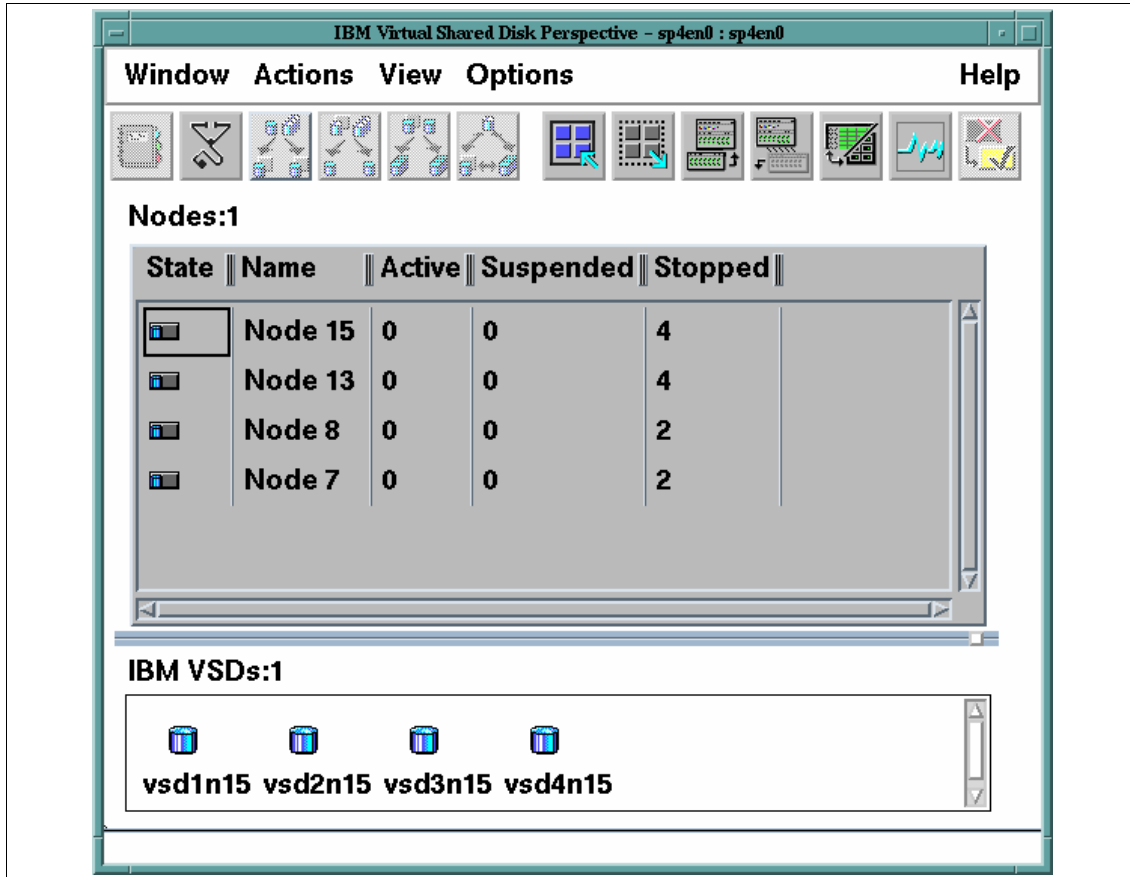

Figure 76. Configured Virtual Shared Disks
We select all the Virtual Shared Disks and press **OK**. All the Virtual Shared Disks are now configured on nodes 13 and 15. We also configure vsd1n15 and vsd3n15 on node 7, plus vsd2n15 and vsd4n15 on node 8. After modifying the Virtual Shared Disk perspective using the following selections, we have the display shown in Figure 76.
- The first two panes are as we defined in Figure 76, our configured Virtual Shared Disk display. We make just a single change to this display: activate monitoring through **Actions->Set Monitoring** or by pushing the Set monitoring button on the tool bar. From the set monitoring window, we select **hasInactiveBMVSDs**. This updates the state column and also allows us to acknowledge the state of any node where the condition is true.